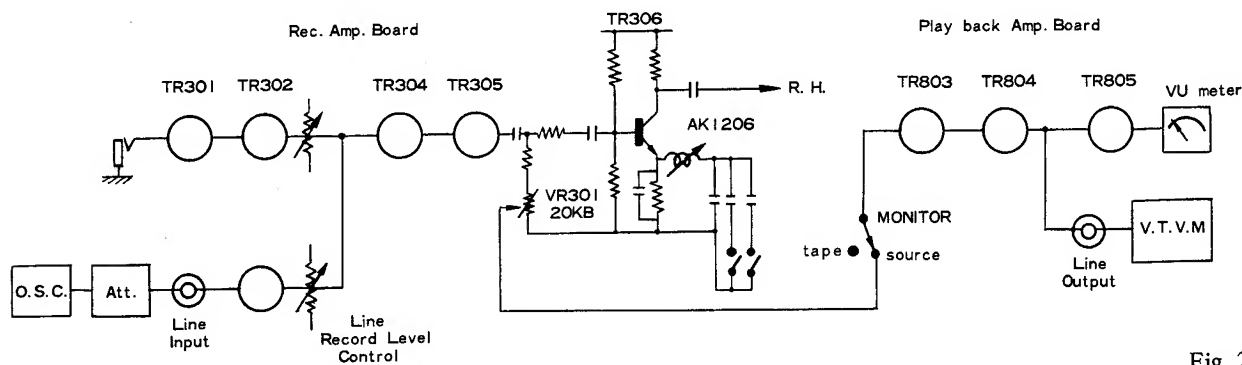

Fig. 2
- As shown in Fig. 2, connect an Audio Oscillator and Attenuator to the Line Input. Connect a High-sensitivity V.T.V.M. to the Line Output.